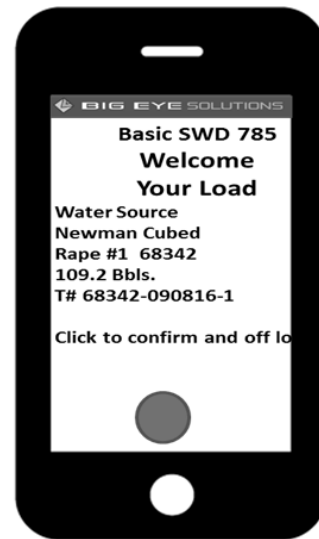

Figure 5
- When the loaded truck enters the geo-fenced boundaries of a SWD or pipeline terminal, the app on the smart device lights up with the screen shown in Figure 5.